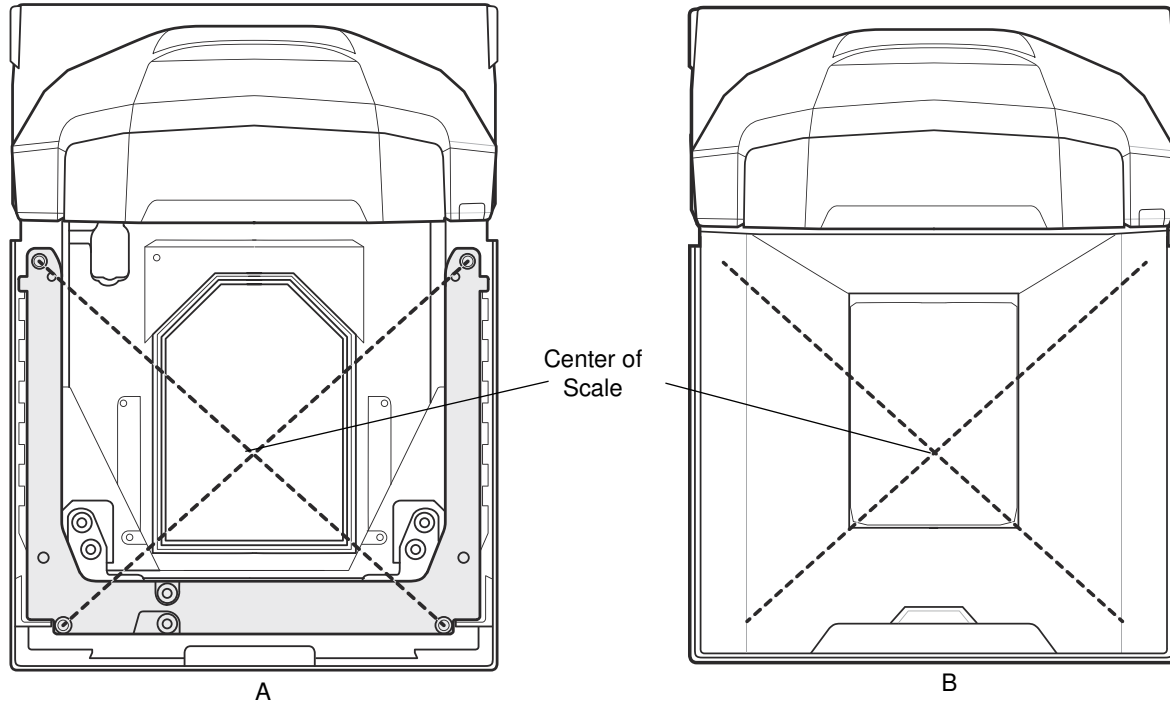

Figure 4-2 (A) Center of Scale Location, and (B) Center of Scale Location with Platter Installed
1. Depending on the units of measure programmed, place 25 lb or 11 kg on the scale. Ideally these weights should be grouped in the center of the scale (Figure 4-2).